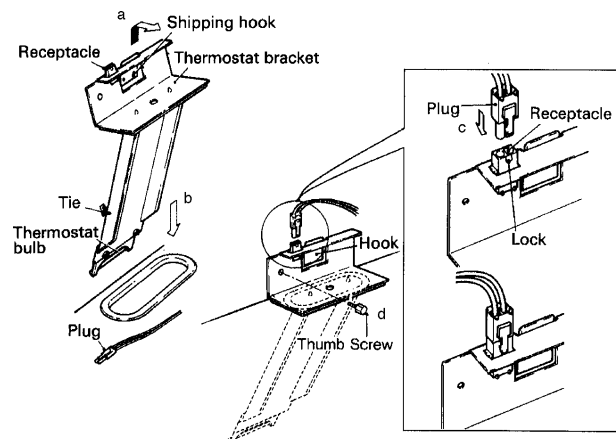

Fig. 3a
- 5) Install the Bin Control Thermostat as follows. See Figures 3a and 3b.